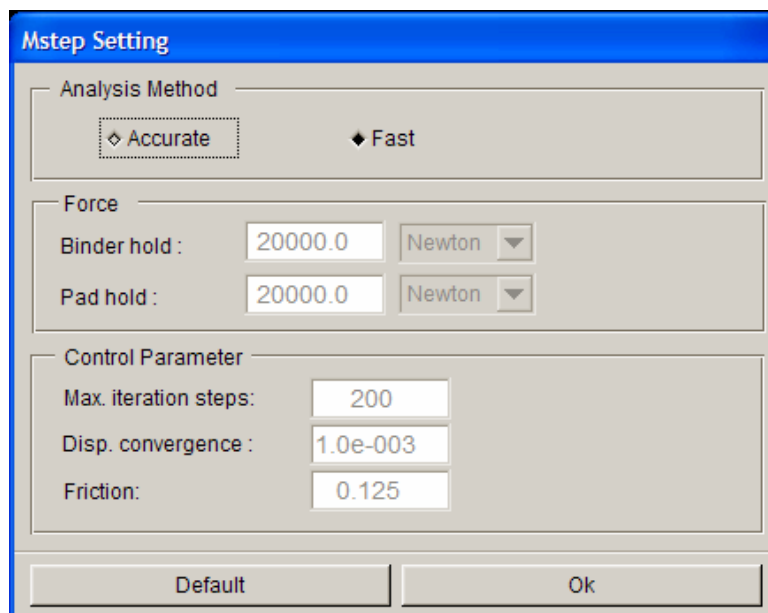

Figure 2.29: MSTEP Setting dialog box
- 1) Click on the **Advanced** button in MSTEP GUI to display the **MSTEP SETTING** dialog box shown in Figure 2.29.